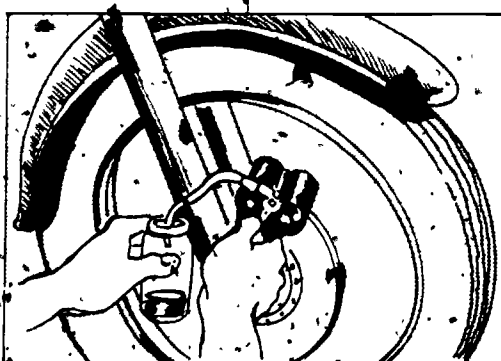

FIGURE 1
- E. While holding pressure on the lever, open the bleeder valve about 1/2 turn (Figure 1).